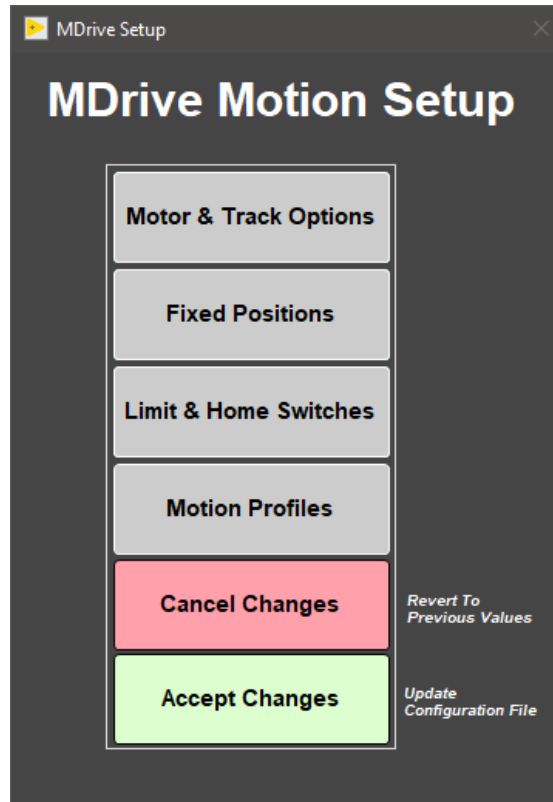

Figure 30. M-Drive Motion Setup
2. The **M-Drive Motion Setup** control panel will open (Figure 30).